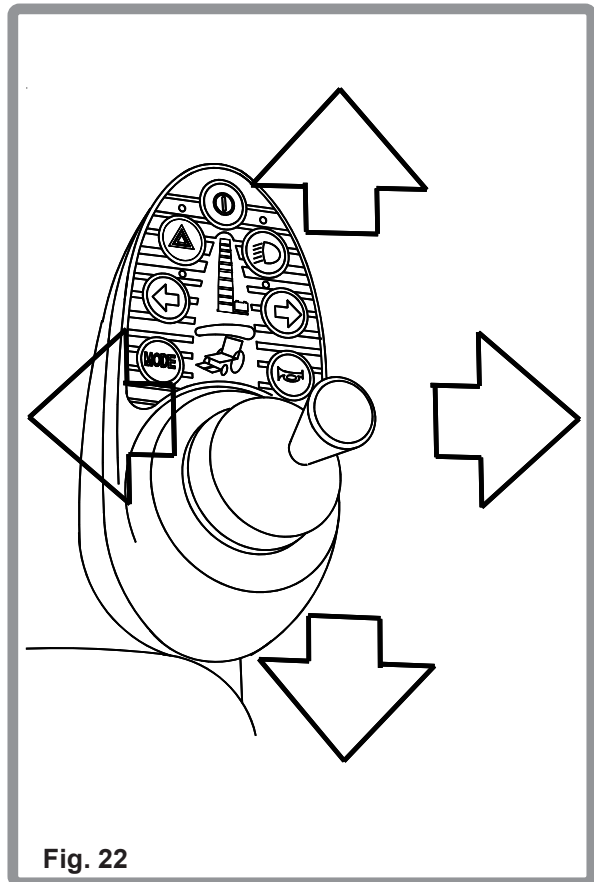

Fig. 22
1. To steer, simply move the joystick in the direction you wish to go (Fig. 22).